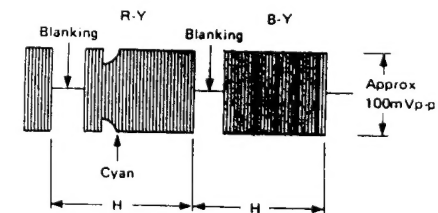

Figure 1.
- 3 Adjust LM51 for the flat level of amplitude in each colour bar waveform on the scope. (See figure 1.)